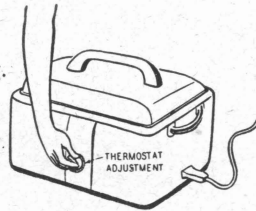

Fig. 27
**Remedy:** Set Thermostat to desired baking temperature. Fig. 27.